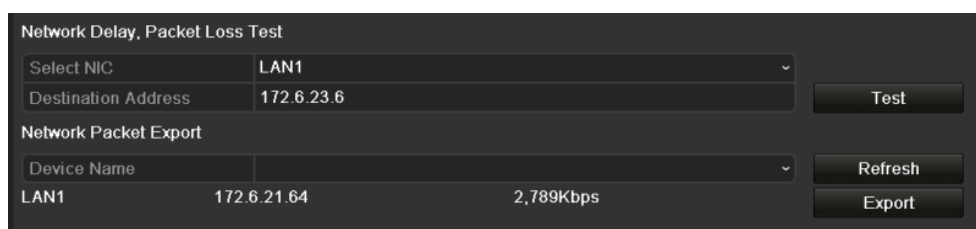

Figure 9. 29 Network Detection Interface
2. Click the **Network Detection** tab to enter the Network Detection menu, as shown in Figure 9. 29.